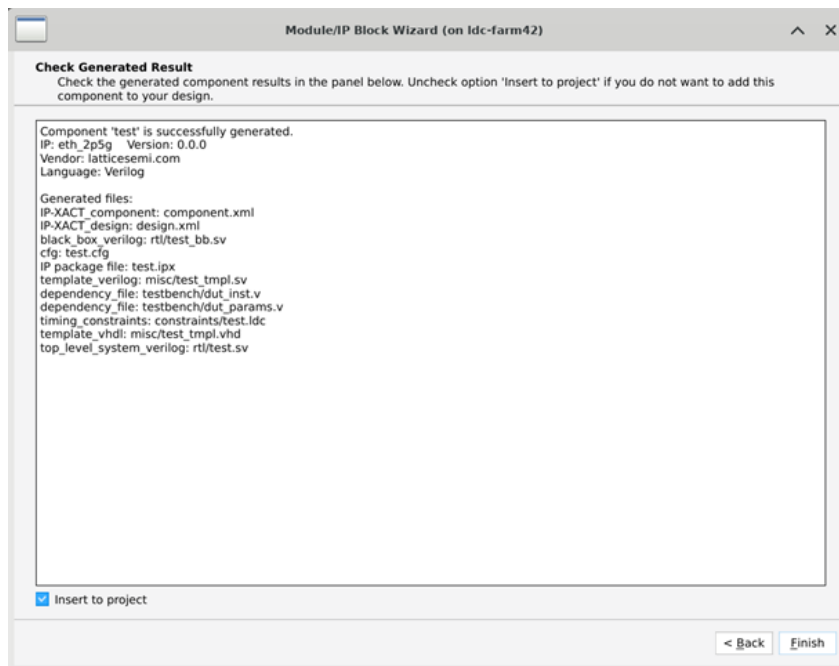

Figure 7.3. Check Generated Result
- Click **Generate**. The **Check Generating Result** dialog box opens, showing design block messages and results as shown in Figure 7.3.